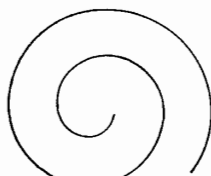

Fig. 66
67. A *Spiral* is a curve similar to an involute the radius of which increases according to a mathematical law as the curve expands. Its use to the architectural or sheet metal draftsman is in the drawing of scrolls or volutes. Fig. 66.